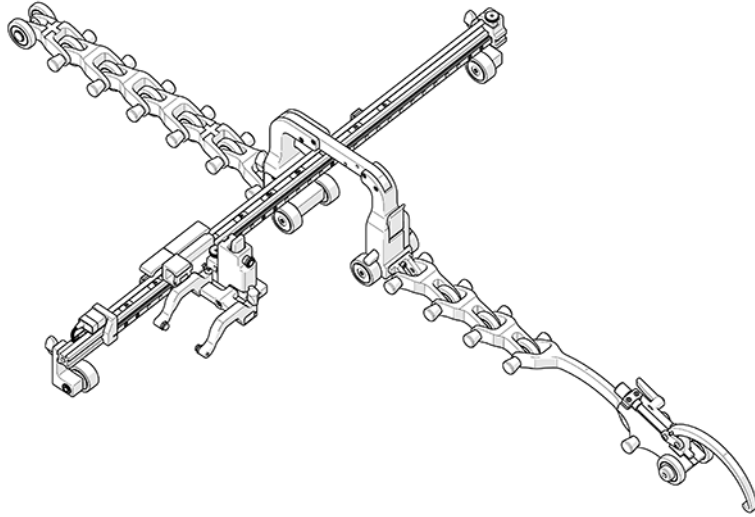

Figure 2-3 Assembly configuration – links attached
5. Arrange the link setup with the buckle and catch link 180° opposite of the corrosion link (Figure 2-3 on page 35).